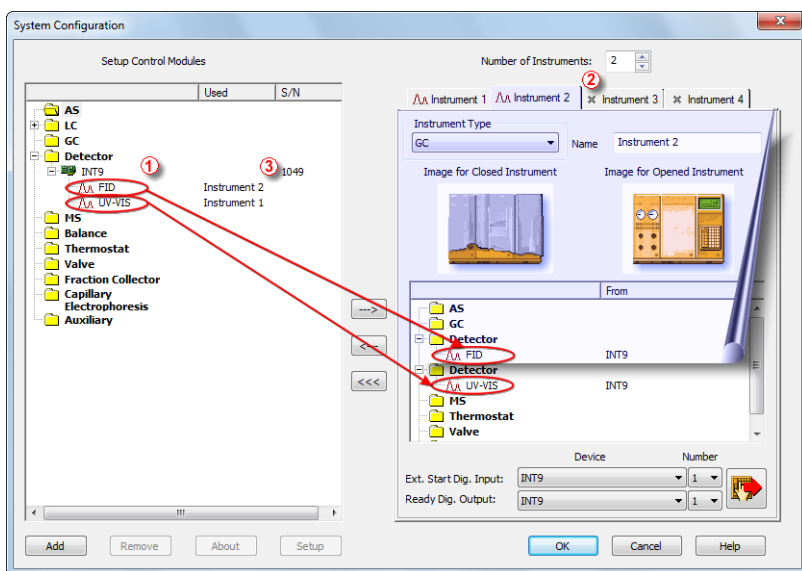

Fig. 6: System Configuration – multiple instruments
When measuring on multiple instruments using only a single **INT9** to gather data, rather than dragging the entire **INT9** icon from the *Setup Control Modules list* ①, drag the individual detector signals (**FID**, **UV-VIS** in this case) to separate Instruments ②. See **Fig. 6** on pg. 10. The Instrument to which the particular signal is connected is listed to the right ③ of the detector name in the *Setup Control Modules* section.